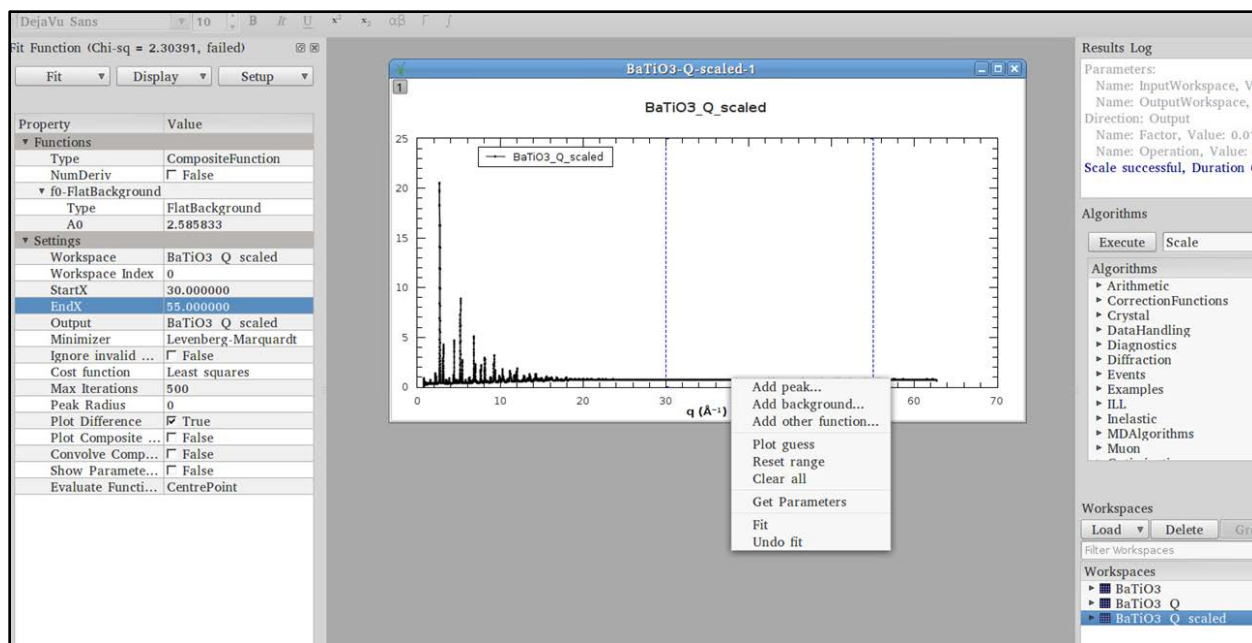

Figure 8. Fit function sidebar and plotted data.
4. Press the Select Multiple Peaks toolbar icon , on top of the panel. The Fit Function sidebar will open, as in Figure 8.
5. Right-click on the plot and select Add background using a FlatBackground type (Figure 8). Drag the vertical blue dotted lines to set the fitting range to 30 to 50 Å-1. Press the Fit button and select Fit to fit the background.